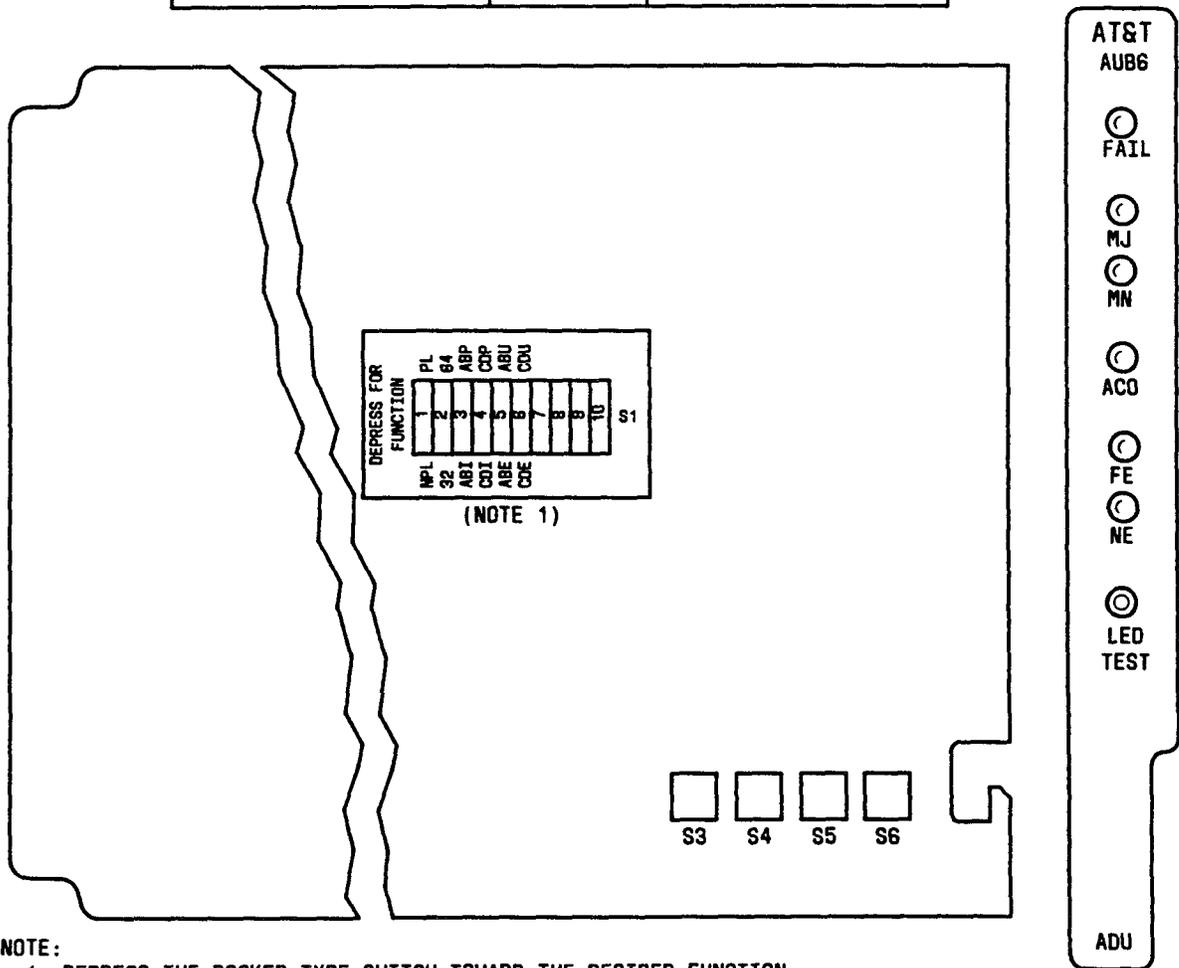

Figure 1—COT AUB6 ADU Options
3. On ADU (AUB1) option switch S2 set switch positions 3 and 4 to open position (depress rocker away from number) (FIG. 1) and proceed to Step 5.